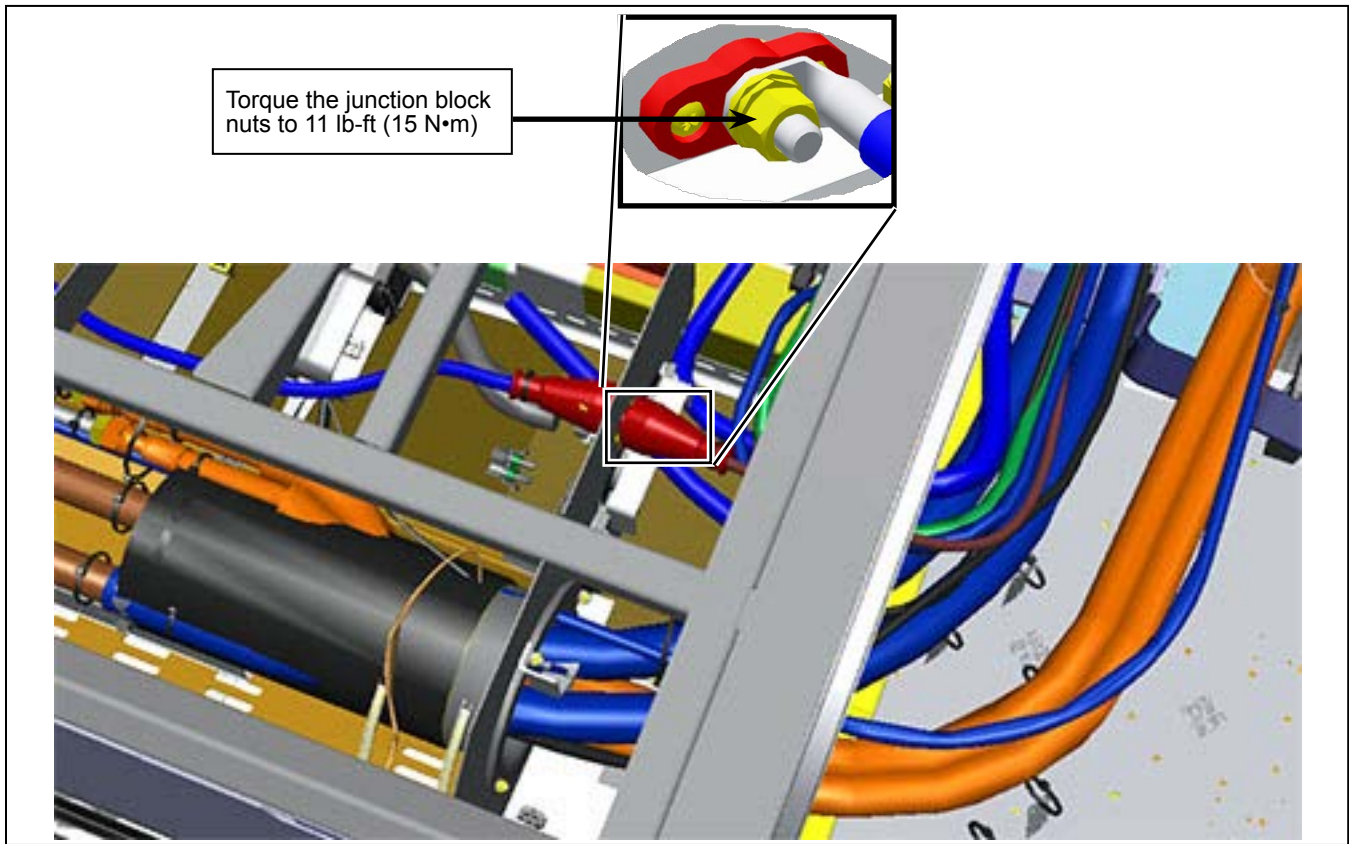

Figure 7 - Position of the 24 V Junction Block and Torque Value
- 1.19. Affix the cable to the junction block using the reserved hardware. Apply electric corrosion protector after tightening. See Figure 7 for torque value.